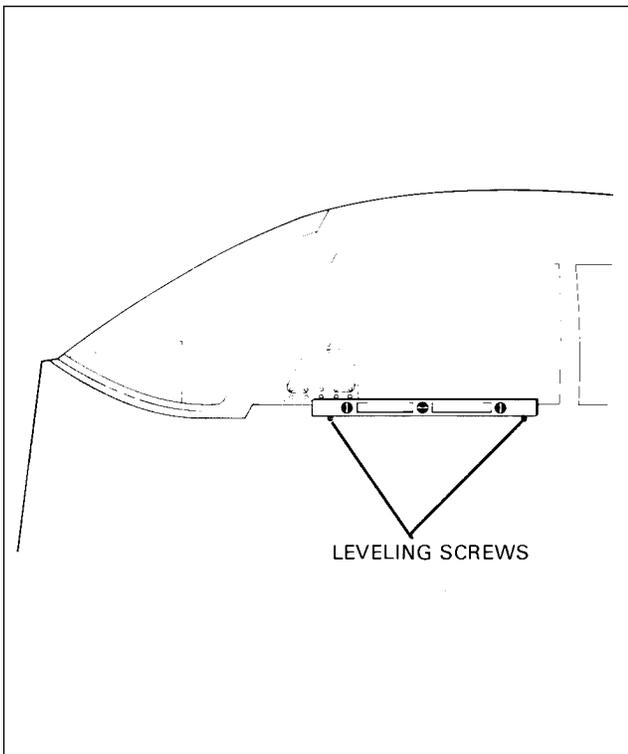

Figure 8-1. Leveling Longitudinally
1. To longitudinally level the airplane, partially withdraw the two leveling screws located immediately below the left front side window. (Refer to Figure 8-1.) Place a level on these screw heads and adjust the jacks until the level is centered. Should the airplane be either on scales or on the floor, first block the main gear oleos to full extension; then deflate the nose wheel until the proper position is reached.